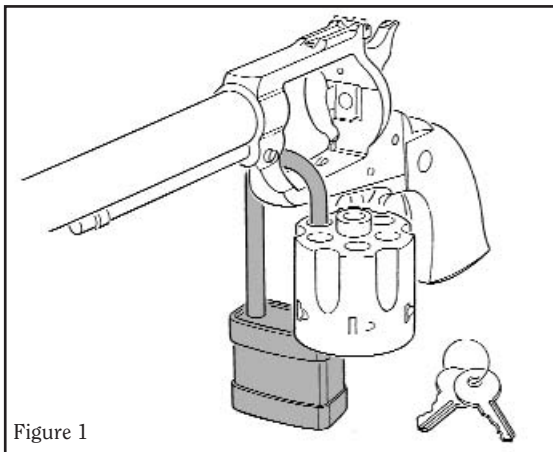

Figure 1
4. Loop the shackle through the cylinder window in the frame. Next slip the cylinder onto the shackle of the lock as shown in Figure 1.